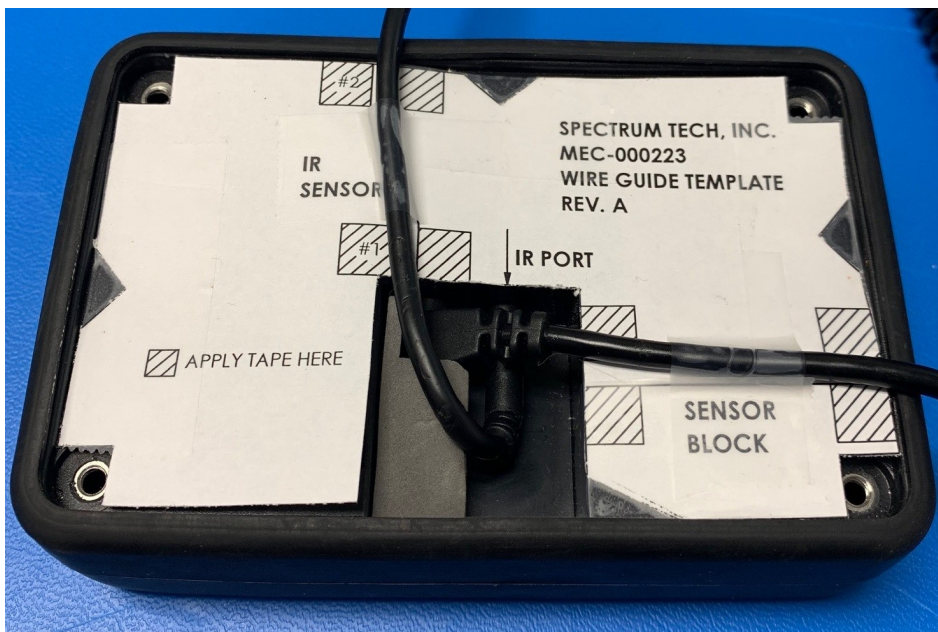

Figure 5
5. Lay the Sensor Block cable on the area indicated on the template. Tape it down at the hashed areas. Similarly, tape down the IR Sensor cable. See fig. 5.